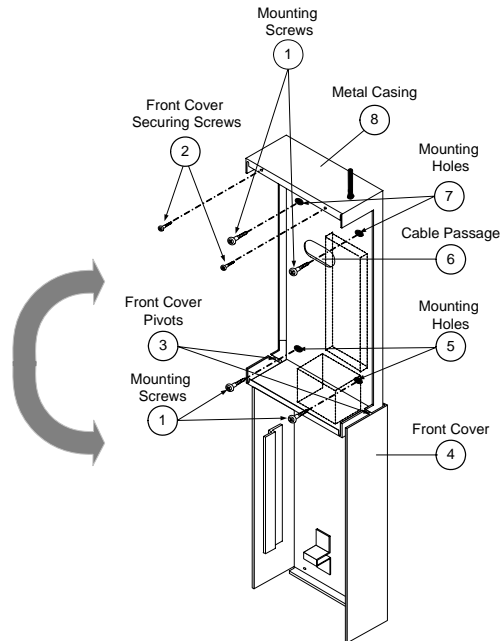

Figure 3. AGM- Installation
1. Remove the two screws securing the AGM front cover (2, Figure 3).
3. Use the metal casing as a template for marking the installation holes (mark through the mounting holes, see 5 and 7, Figure 3).
5. Insert external cables (GND, power, and phone lines) through the cable passage (6, Figure 3).
6. Align the AGM with the mounting holes and fasten it firmly to the wall with all four supplied screws (1, Figure 3).
10. Install the front cover in its place (in a reverse sequence of the removal (see Figure 3).